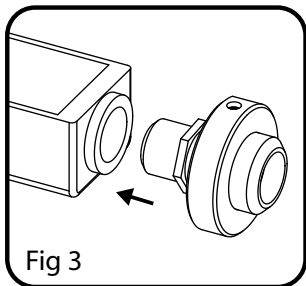

Fig 3
5. Thread adaptor body (6) into pump housing and temporarily tighten lock nut (5) **[FIG 3]**